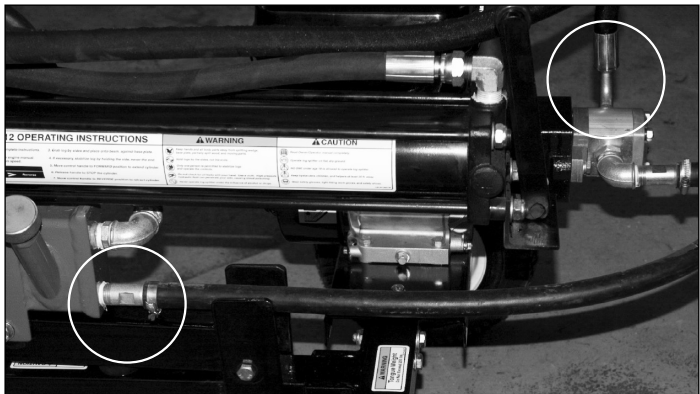

Figure 15
Notice the approximate 12 o'clock position of hydraulic fitting. SEE FIGURE 15.
10. **(U.S. Version)** Install hydraulic supply hose on pump and tank assembly. Slide hose onto hose barb until snug and tighten with hose clamp. **SEE FIGURES 15 AND 16.**